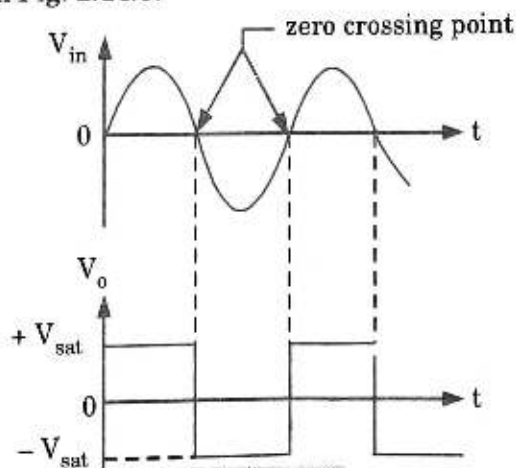

Fig. 2.14.5.
- During positive half cycle, inverting terminal is more positive than non-inverting terminal, so output is $-V_{sat}$ while for negative half cycle, the output is $+V_{sat}$. This circuit is called an inverter. The waveforms are shown in Fig. 2.14.5.